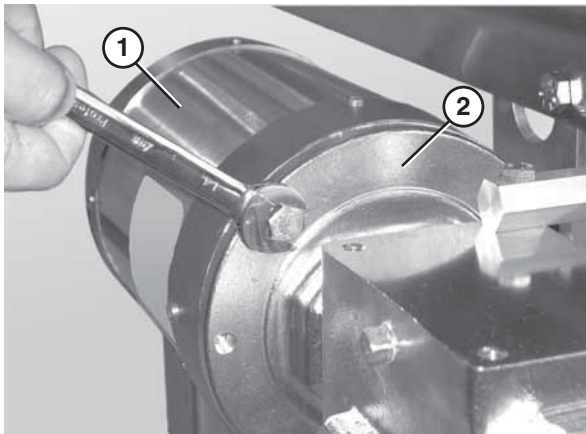

Figure 37
5. Remove the bolts that connect the motor (Figure 37, item 1) to the gear reducer (Figure 37, item 2).